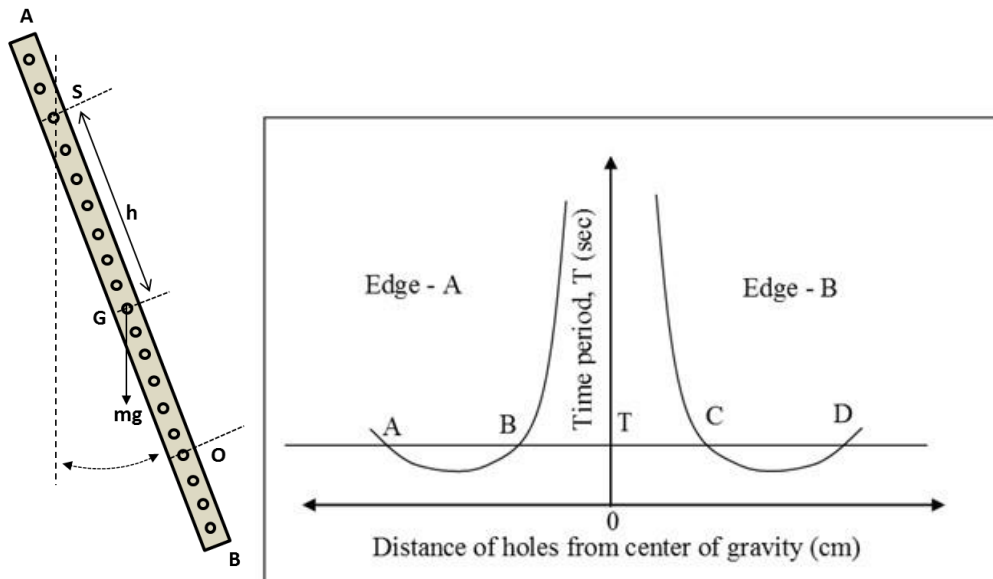

Figure 1: Demonstration of compound pendulum oscillations and corresponding time period vs distance graph.
In this experiment, we will determine the length L and corresponding time period T graphically [see Figure 1]. If we plot a graph using table (1), two curves symmetric about the position of COM should appear. Horizontal lines in the lower portion will intersect the curves in four points. l_1 and l_2 can be determined by
7. Draw a graph T vs d for Edge A and Edge B observations as shown in the Figure 1.